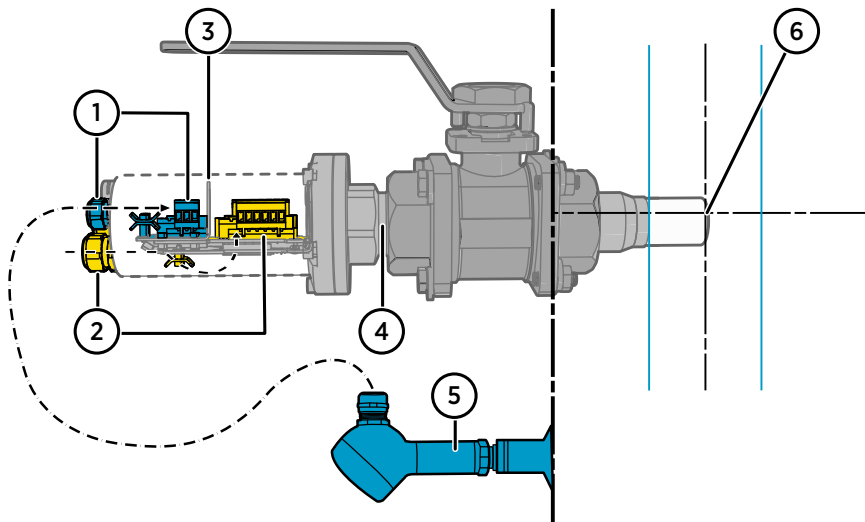

Figure 2 MGP260 series probe installation example with wiring routes and recommended orientation and depth
Figure 2 (page 11) shows an example MGP260 probe ball valve installation. The figure highlights the correct wiring routes and shows the recommended installation depth and orientation. An external pressure measurement instrument (item 5) is shown as an example of pressure compensation input options: for a description of alternative options, see Pressure compensation input options (page 12).
Figure 3 \(page 12\) shows the recommended installation position for MGP260. Install the probe in a straight run of pipeline,  $\geq 5$  pipe diameters downstream of the closest bend or other feature affecting gas flow, and  $\geq 2$  pipe diameters upstream to the next bend or similar feature. For best results, use the orientation and installation depth shown in Figure 2 \(page 11\).
- Pressure measurement received from an external pressure measurement instrument through the Ex ia (4 ... 20 mA) input terminals on the MGP260 component board. This is the recommended option: for an example, see Figure 2 \(page 11\). The wiring of the external pressure instrument input is shown in Wiring diagram \(page 18\).